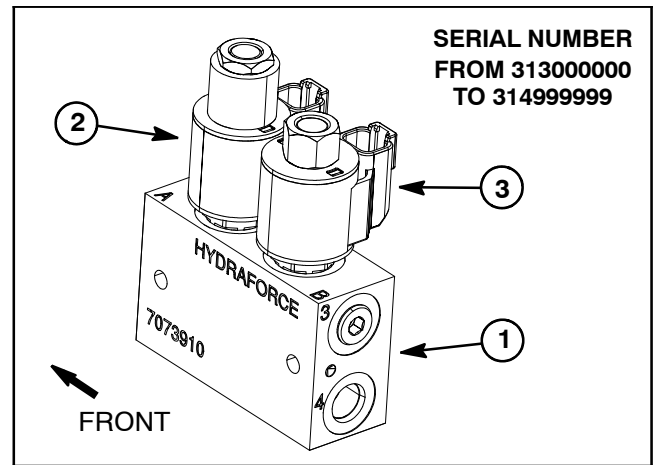

Figure 23
1. Make sure ignition switch is in the OFF position. Unplug wire harness electrical connector from solenoid valve coil that is to be tested (Fig. 23 or 24).